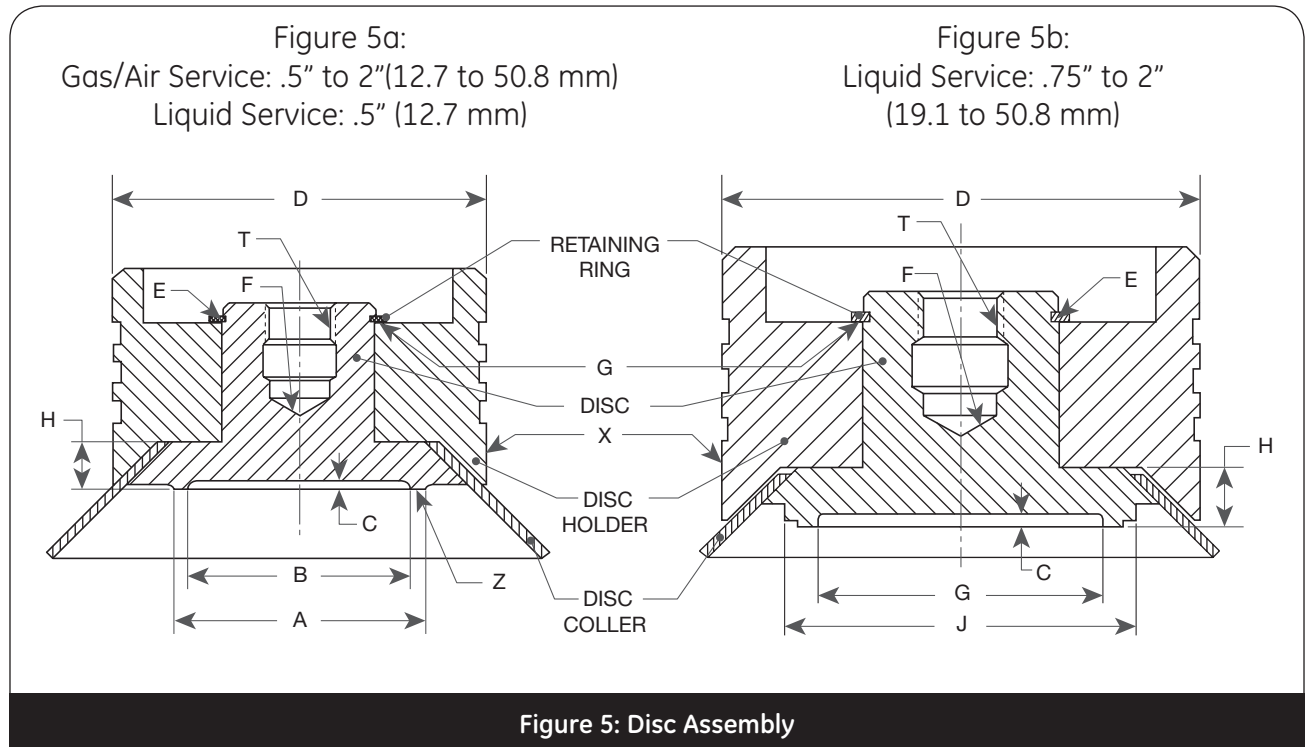

Figure 5: Disc Assembly
When the seats cannot be repaired by lapping, they can be remachined using dimensions given in Figure 5 and Table 1. The following procedure can be used when machining the base seat:
b. Take light cuts on the seat surface until all damage is removed. Reestablish dimensions as shown in Figure 5 and Table 1.
2. Disc Holder Replacement criteria, Figure 5 and Table 1
- Outside diameter (D) is galled or exceeds minimum dimension. It requires 32 RMS finish.
- Retainer ring shoulder (G) is worn.
- Exceeds dimensions mentioned in Table 1 and Figure 5.
3. Disc Replacement Criteria, Figure 5 and Table 1
- a. Seat surface (Z) is nicked, or dimension (C) is reduced to .025" (0.64 mm).
- b. Spindle pocket surface (F) is pitted or galled, it requires 63RMS finish.
- c. Threads (T) are torn, galled or stripped.
- d. Retainer Ring groove (E) is worn.
- e. Disc height (H) exceeds minimum dimension.
- f. Exceeds dimensions mentioned in Table 1 and Figure 5.
4. Disc Retainer Replacement criteria, Figure 5